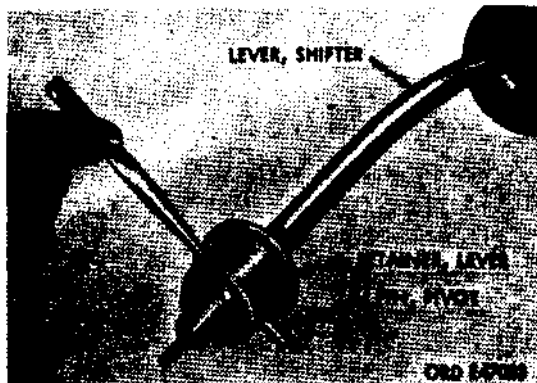

Figure 267. Removing pivot pin from shifter lever retainer
- (d) Use a punch to drive pivot pin (fig. 267) securing lever retainer to shifter lever and disassemble.